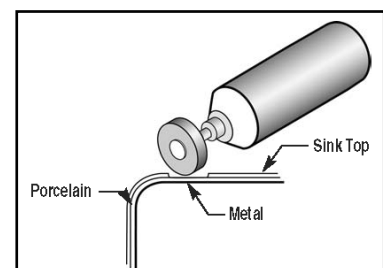

Figure 7: Grinding Wheel
- B. Grind away a 1-1/4" diameter circle in the porcelain using a silicon/carbide wheel and high-speed grinder (See *Installation Tool List*), down to the metal surface of the sink. (See Figure 7)